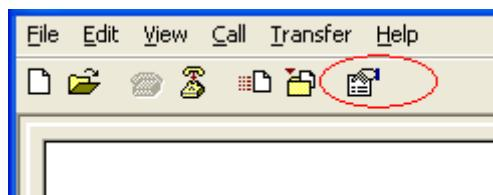
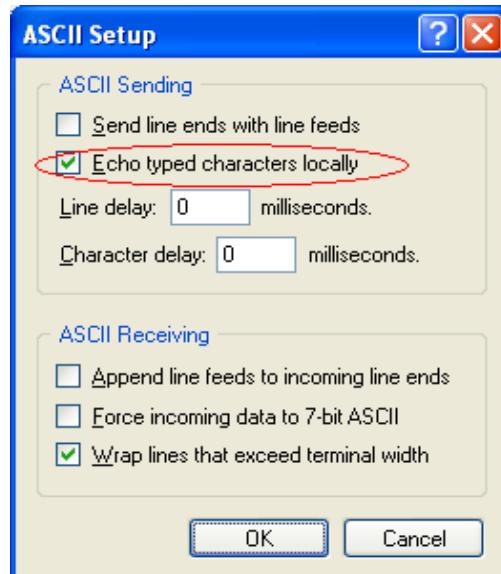

Figure K-27. Port toolbar
Figure K-29. Setting Echo character
Step 5. Configure this port as shown as in Figure K-27. Enter to ASCII setup and setting as shown as in Figure K-29